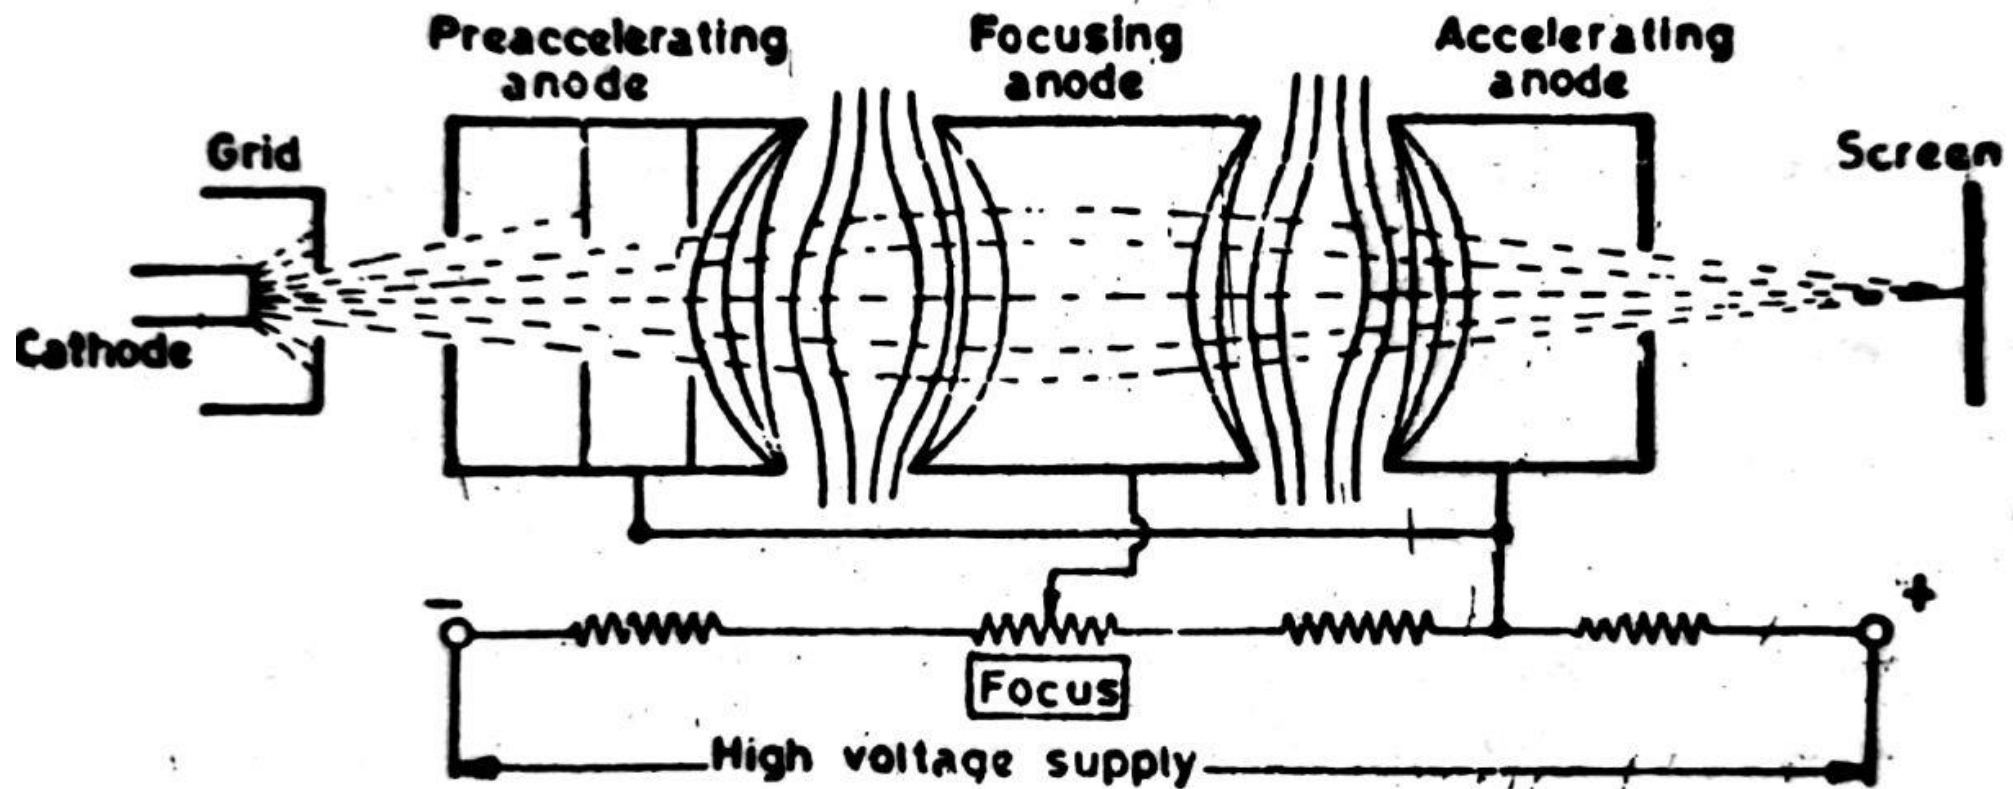

Figure 7
- Figure 7 shows the functional diagram of electrostatic focusing in a CRT.